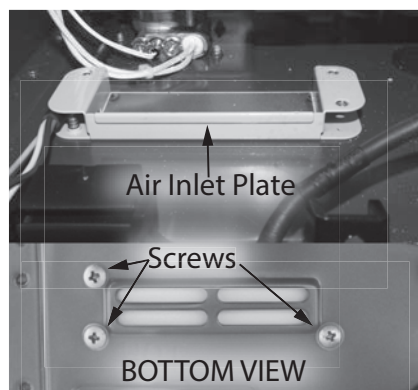

Figure 230 - Air inlet plate location
**18** Locate the three (3) screws securing the air inlet plate to the water heater cabinet. Use a Phillips screwdriver to remove the screws. Place screws aside in a safe place for reinstallation. See Figure 230. Note the orientation of the plate when removed and returning to that orientation when reinstalling it.